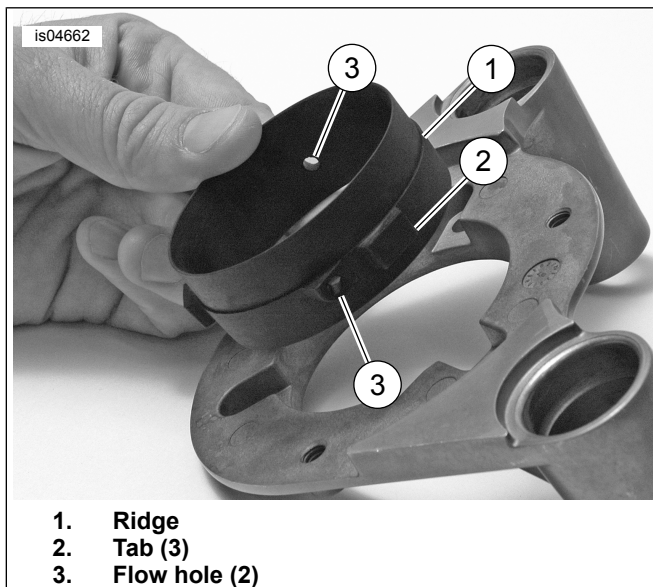
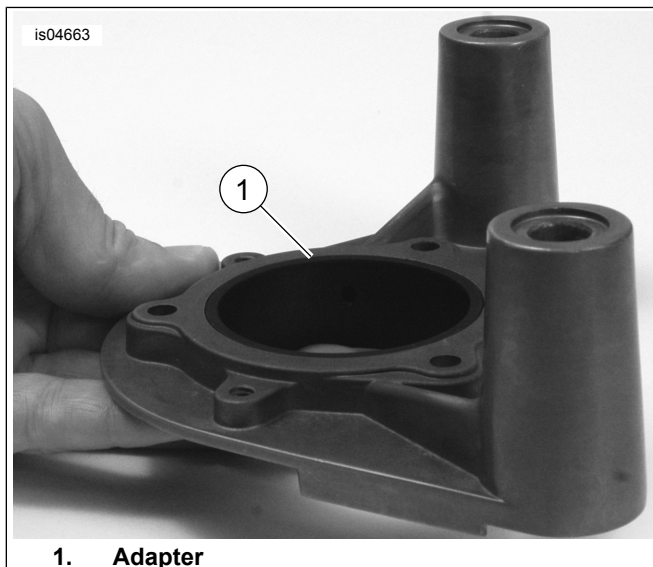
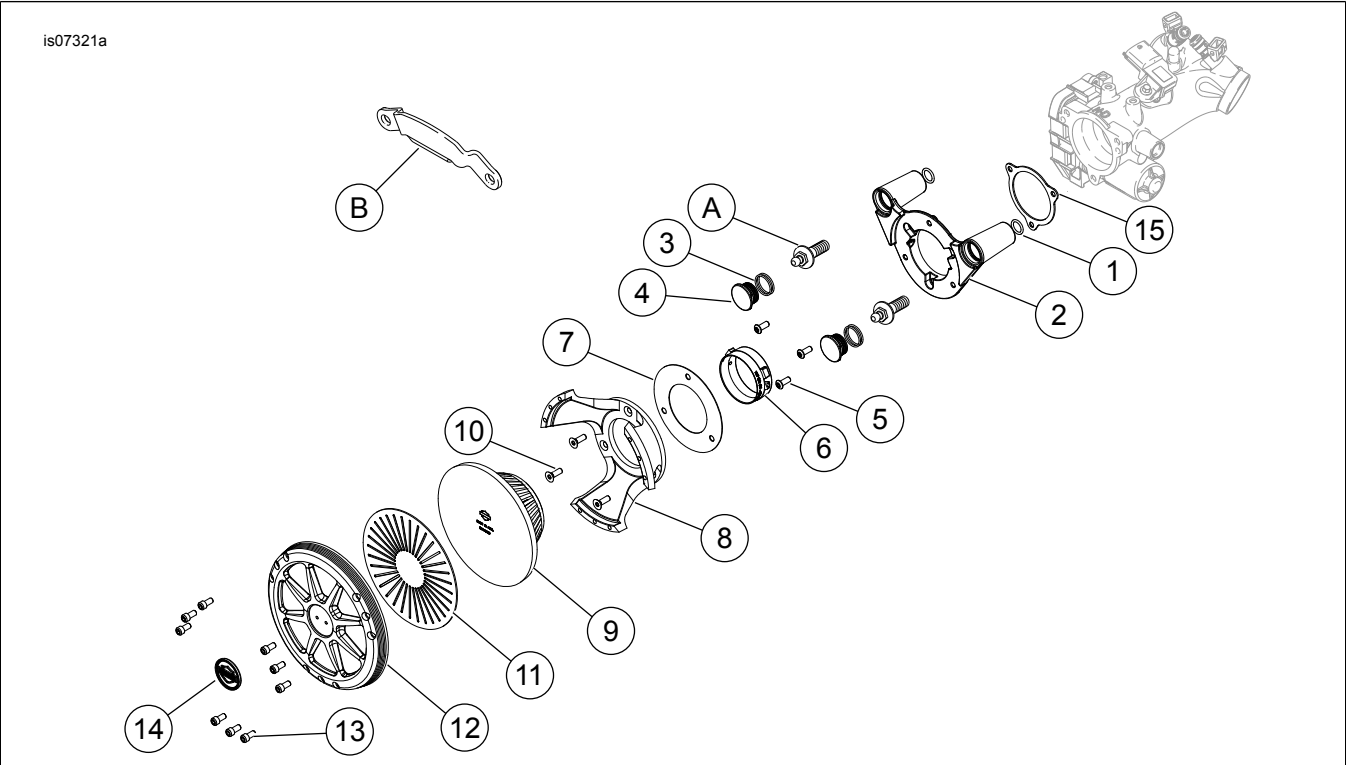

Figure 1. 50 mm Adapter
Figure 2. Adapter Positioned Correctly in Backplate
Figure 3. Service Parts: Screamin' Eagle Performance Air Cleaner Kit
See Figure 3 and Table 1.
2. Remove the air cleaner backplate following the instructions in the service manual. Retain the two breather screws (A) removed from the backplate (see Figure 3). The remaining parts can be discarded.
3. See Figure 3. Remove and discard induction module bracket (B).
1. Align the holes and install the gasket (15) on the backplate.
2. See Figure 3. Install the **new** O-rings (1) in the grooves around the breather screw holes on the induction module side of the backplate (2).
4. Apply a small amount of threadlocker (purchased separately) to the backplate mounting screw (5) threads. Insert the screws through the backplate and induction module cover then install the screws into the induction module until the screw threads are engaged. **DO NOT** tighten completely at this time.
9. **For models equipped with 50 mm induction module:** See Figure 1. The outside of the outer half of the plastic adapter (item 6 in Figure 3) is marked "This side out - 50 mm only." The inner half is indexed with three tabs (2) and two breather flow holes (3). Insert the indexed side into the backplate, aligning the tabs and flow holes with the flow holes in the backplate. Check that the adapter is fully seated and oriented correctly with the markings visible. See Figure 2. When installed correctly, the adapter is flush on the induction module side of the backplate.
10. See Figure 3. Place the gasket (7) against the opposite side of the flange.
11. Align the holes in the gasket with the cover adapter (8).
12. Apply a small amount of threadlocker to the threads of the three flat head screws (10).